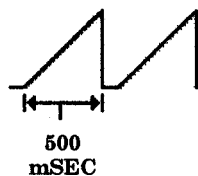

Figure 4. 500 mSec ramp.
- (11) Set oscilloscope to display a 0 to 10 volt sweep ramp using **CH2** as the trigger source.
- (12) Adjust A16R67 SWP TIME for a ramp of 500 msec (fig. 4) duration (R).
- (14) Connect oscilloscope to A16TP4. Display should be similar to figure 4.